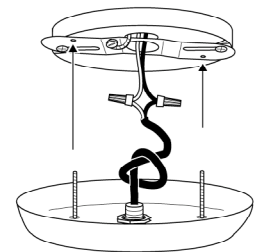

Figure 2
5. (figure 2) Feed the cord through the Cord Grip, the Ceiling Plate, and finally the hex nut. Screw the cord grip into the hex nut. Tighten the set screw on the Cord Grip so that the cord doesn't slip through the cordgrip. Finally, tie the cord into an overhand knot above the Ceiling Canopy.
6. (figure 2) Use the Wire Nuts to connect the positive and negative wires. The white side of the wire coming from the fixture should connect to the neutral or white wire. The black wire from the fixture should connect to the hot or black wire from the junction box.
7. (figure 2) Screw the Ceiling Plate into the crossbar with the Black 8/32 Machine Screws to secure the fixture to ceiling.